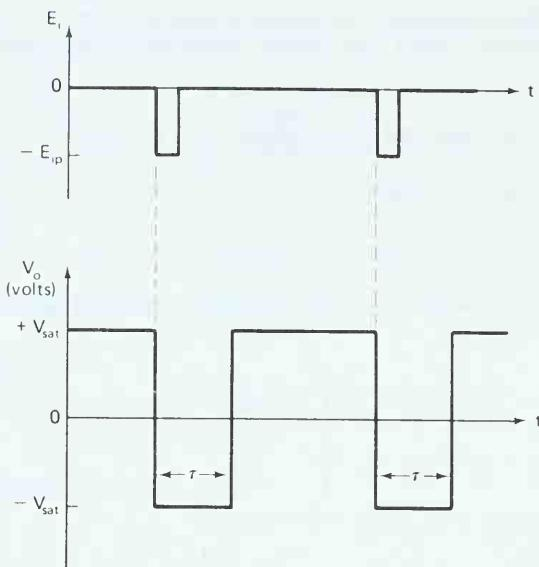

FIGURE 6-3 Input signal E_i and output pulse of a one-shot multivibrator.
A *one-shot multivibrator* generates a single output pulse in response to an input signal. The length of the output pulse depends only on external components (resistors and capacitors) connected to the op amp. As shown in Fig. 6-3, the one-shot generates a single output pulse on the negative-going edge of E_i . The duration of the input pulse can be longer or shorter than the expected output pulse. The duration of the output pulse is represented by τ in Fig. 6-3. Since τ can be changed only by changing resistors or capacitors, the one-shot can be considered a *pulse stretcher*. This is because the width of the pulse is wider than the input pulse. Moreover, the one-shot introduces an idea of an adjustable delay, that is, the delay between the time when E_i goes negative and the time for V_o to go positive again. Operation of the one-shot will be studied in three parts: (1) the stable state, (2) transition to the timing state, and (3) the timing state.